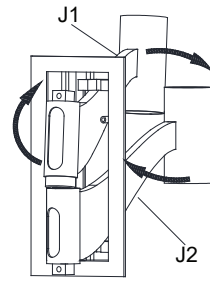

Fig.4
1. Remove the mounting plate (B) from the fixture body by unscrewing the screws (D).
2. Remove the driver (H) from the fixture body by unscrewing the screws (I).
3. Remove the arms (J1 & J2) from the fixture body by unscrewing the screws (G).
4. Change the location of the arms (J1 & J2) as shown in figure 4.
5. Secure the arms to the fixture body with the screws (G), then secure the driver to the fixture body with the screws (I).